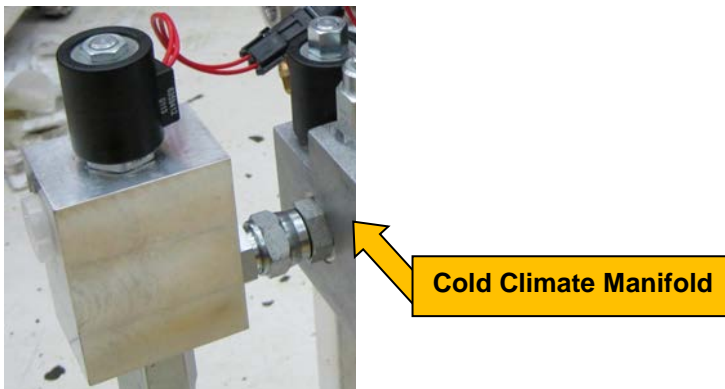

Figure 2 - Hydraulic Connection
- Connect the fitting installed in the PREDATAIR hydraulic manifold (or Cold Climate Kit “Oil In” port) to the fitting installed in the Closed Center Kit (Figure 2). Rotate the block so the solenoid valve is vertical and tighten the fittings.